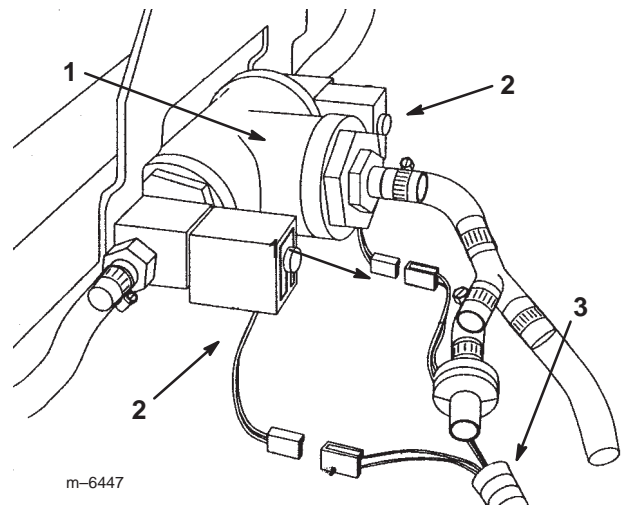

Figure 12
9. Locate the wiring harness connector furnished with the vehicle for the foam marker boom solenoid at the center section of the boom (Fig. 12).
10. Plug the harness connectors into the boom solenoids at the mixer tee assembly. Plug the connector with the blue wire to the right solenoid and plug the connector with the yellow wire to the left solenoid (Fig. 12).